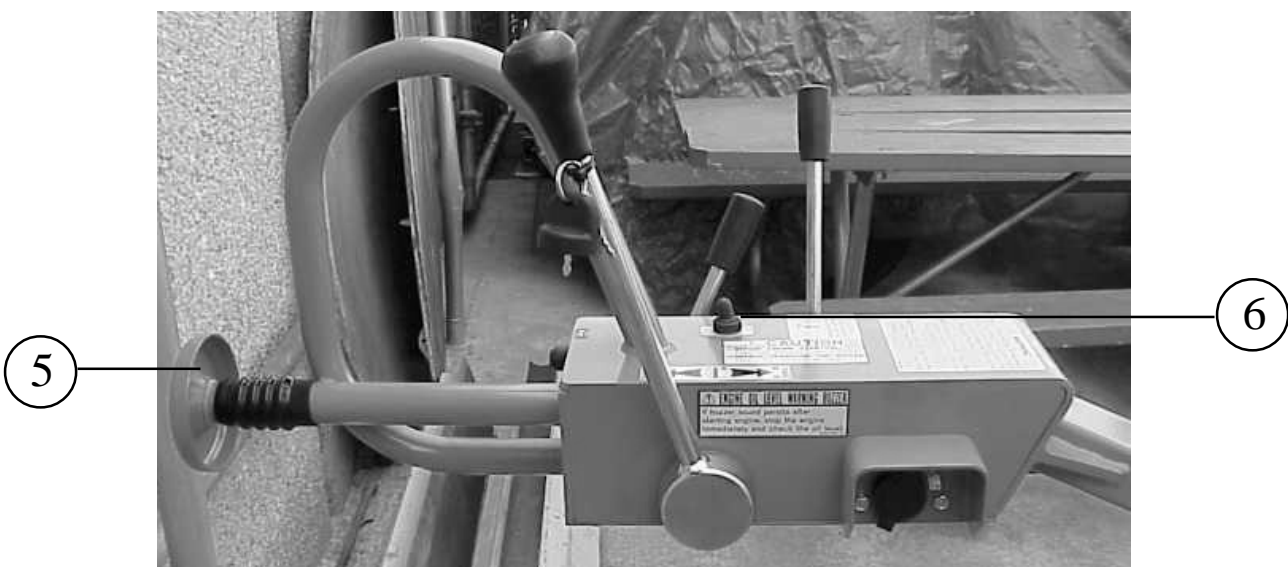

Figure 4. MRH-800DS Lever Components
Figure 4 illustrates the location of the major lever components on the handle bar of the machine. Each component is described below:
1. Check travel, vibration, and throttle levers to make sure they are functioning properly (Figure 4).